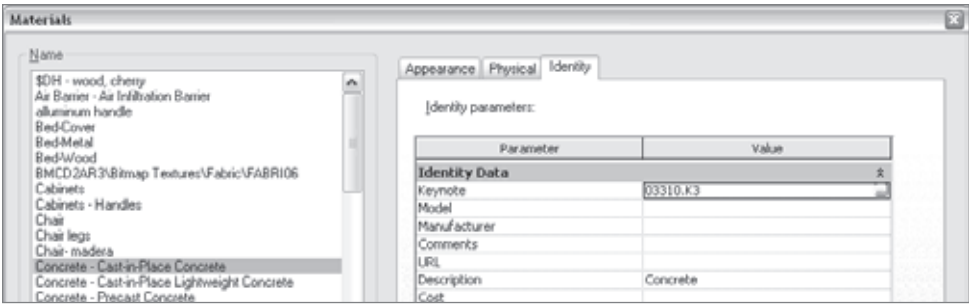

Figure 10.58
**Material** This value can also be set in the Materials dialog box. By selecting a material from this list and then clicking the Identity tab, you can add keynote values directly to your materials (see Figure 10.58). You will again be presented with the familiar Keynote dialog box to select your materials.